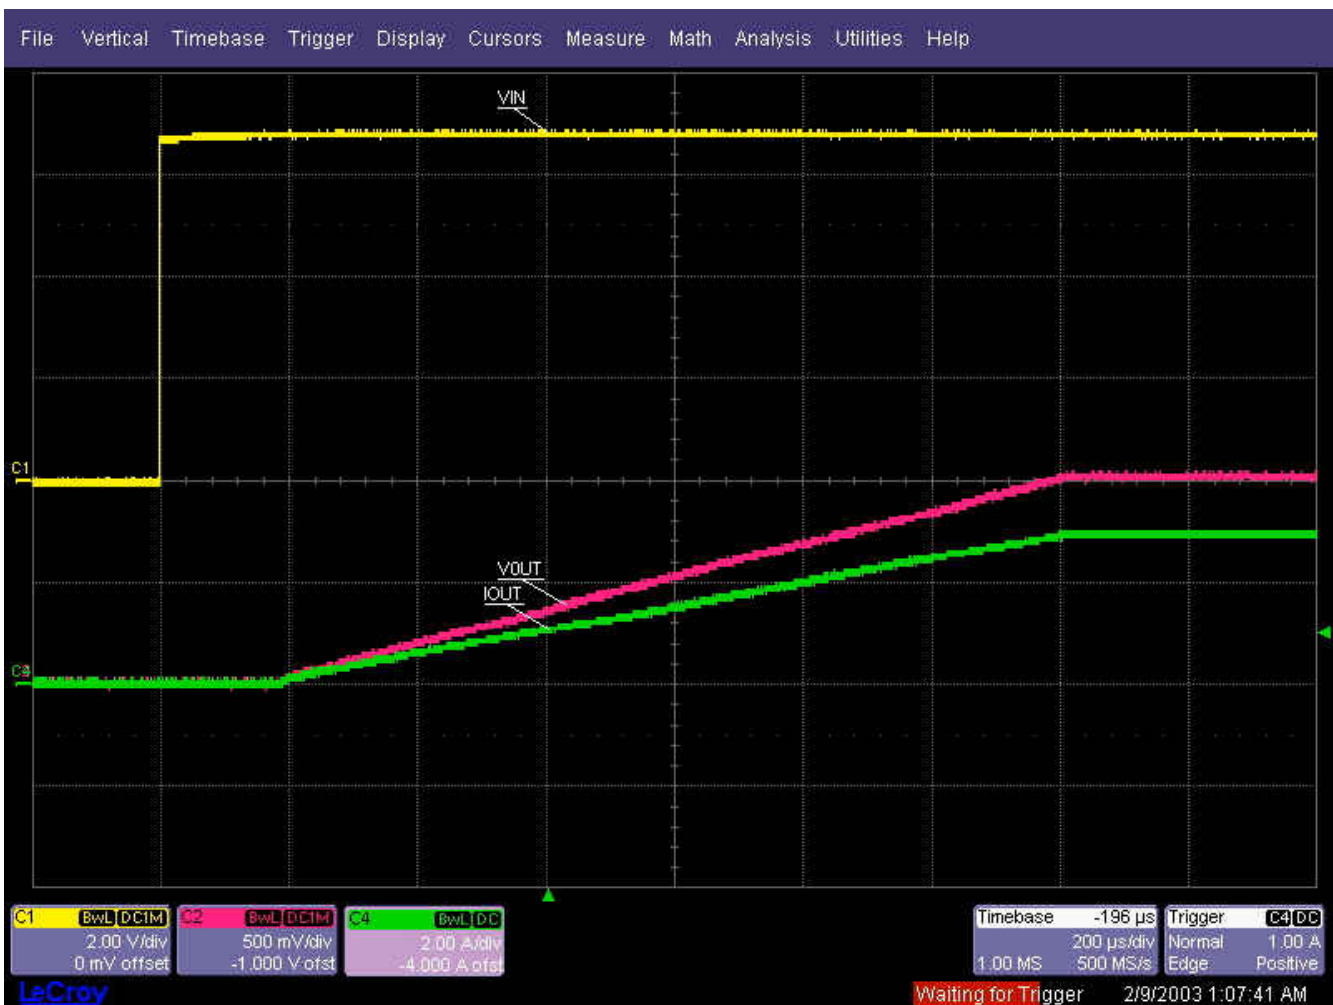

Figure 2-1. TPS7A53EVM-080 Turn-On
| Figure 2-1. TPS7A53EVM-080 Turn-On..... | 5 |
Alternatively, by connecting an external function generator to TP4 (EN) and a nearby GND connection, the user can enable or disable the TPS7A53A-Q1 LDO after VIN is applied. Figure 2-1 shows the result of the TPS7A53EVM-080 during turn-on. The yellow trace is the input voltage, the green trace is the load current, and the red trace is the output voltage.